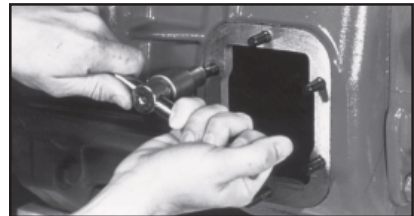

Fig. 5
4. Install the proper studs in the P.T.O. aperture pad using a stud driver. (See Fig. 5.)